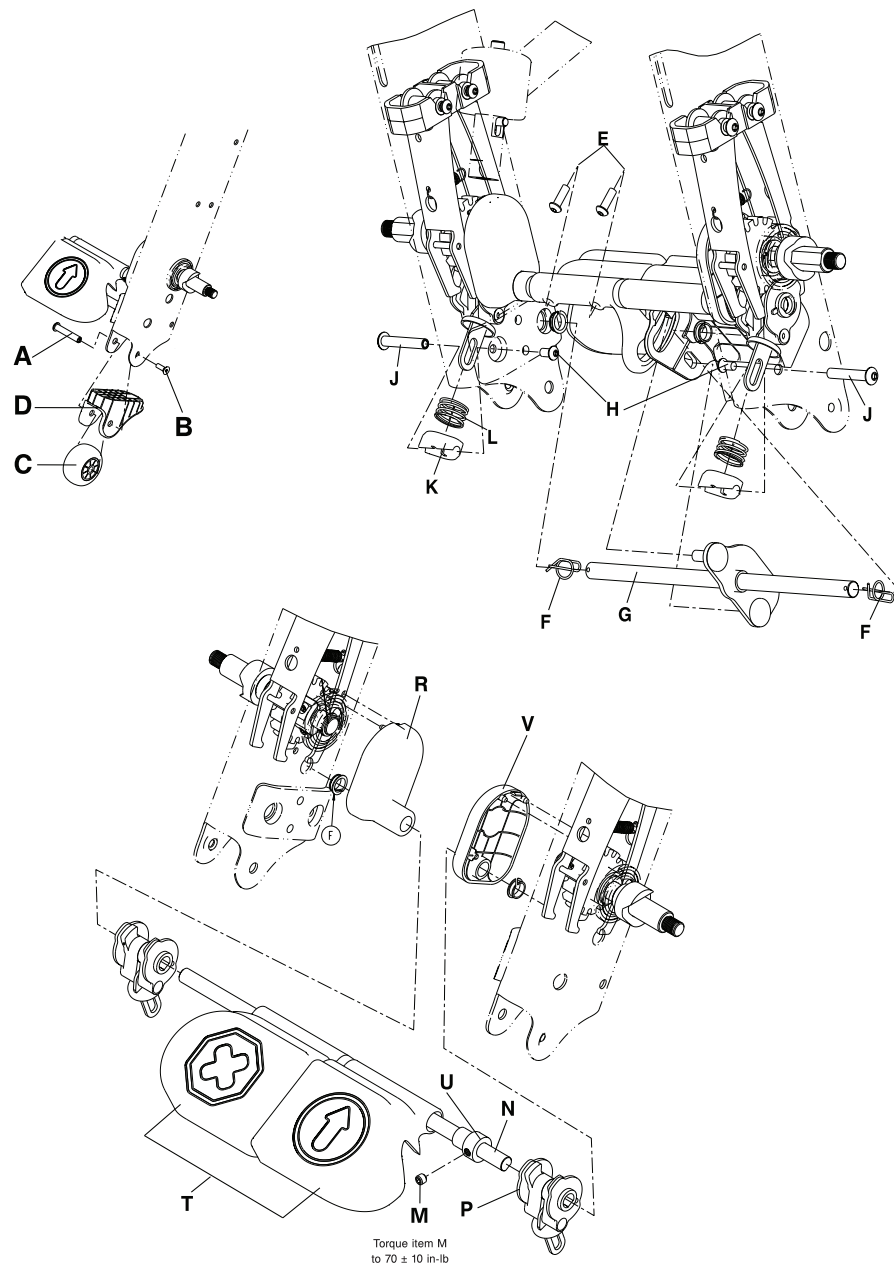

Figure 29: Pedal replacement
3. Using a 5/32" hex wrench and a 3/16" hex wrench, remove the anti-tip wheel spacer nut (A) and flange head cap screw (B) that secure the anti-tip wheel (C) and lower frame cover (D) to the chair frame (Figure 29 on page 47). Save all parts.
5. Using a 5/32" hex wrench, remove the two button head cap screws (E) on the bottom of the go pedal. Save the screws (Figure 29 on page 47).
6. Using needle nose pliers, remove the rue ring cotter (F) on both ends of the toggle link rod (G). Save the rue ring cotters (Figure 29 on page 47). When reinstalling the screws, use a 3/8" drive torque wrench to torque the screws to 70 ± 10 in-lb.
7. Remove the toggle link rod (G) (Figure 29 on page 47).
8. Using a 5/32" hex wrench and a 3/16" hex wrench, loosen the button head cap screw (H) that secures the brake cam spring pad (K) to the chair frame (Figure 29 on page 47).
9. Use your hand to push on the brake cam spring pad (K) (Figure 29 on page 47) to relieve pressure from the brake finger spacer nut (J). Remove and save the brake finger spacer nut and screw.
10. Carefully remove the brake cam spring pad (K) and brake cam spring (L) (Figure 29 on page 47). Save the pad and spring.
12. Using a 5/32" hex wrench, remove the collar set screw (M) (Figure 29 on page 47). Save the set screw. When reinstalling the set screw, use a 3/8" drive torque wrench to torque the screw to 70 ± 10 in-lb.
13. Push the brake cross bar (N) toward the occupant left side until the bar no longer touches the occupant right side brake cam assembly (P) (Figure 29 on page 47). Remove the occupant right side brake cam assembly (P) (Figure 29 on page 47). Save the assembly.
14. Push the brake cross bar (N) toward the occupant right side and remove the brake cross bar (N) (Figure 29 on page 47). Save the bar.
- a. As the brake cross bar (N) is being removed, carefully remove the following parts in the order shown (Figure 29 on page 47):
- i. Left brake shaft cover (R)
- ii. Brake pedal assembly (T)
- iii. Collar (U)
- iv. Right brake shaft cover (V)
Note: Note the orientation of the brake cam assembly (P). Make sure that the tab faces the front of the chair (Figure 29 on page 47).
- Note:** When reinstalling the brake cam assembly (P) (Figure 29 on page 47), make sure that the tab faces the front of the chair.